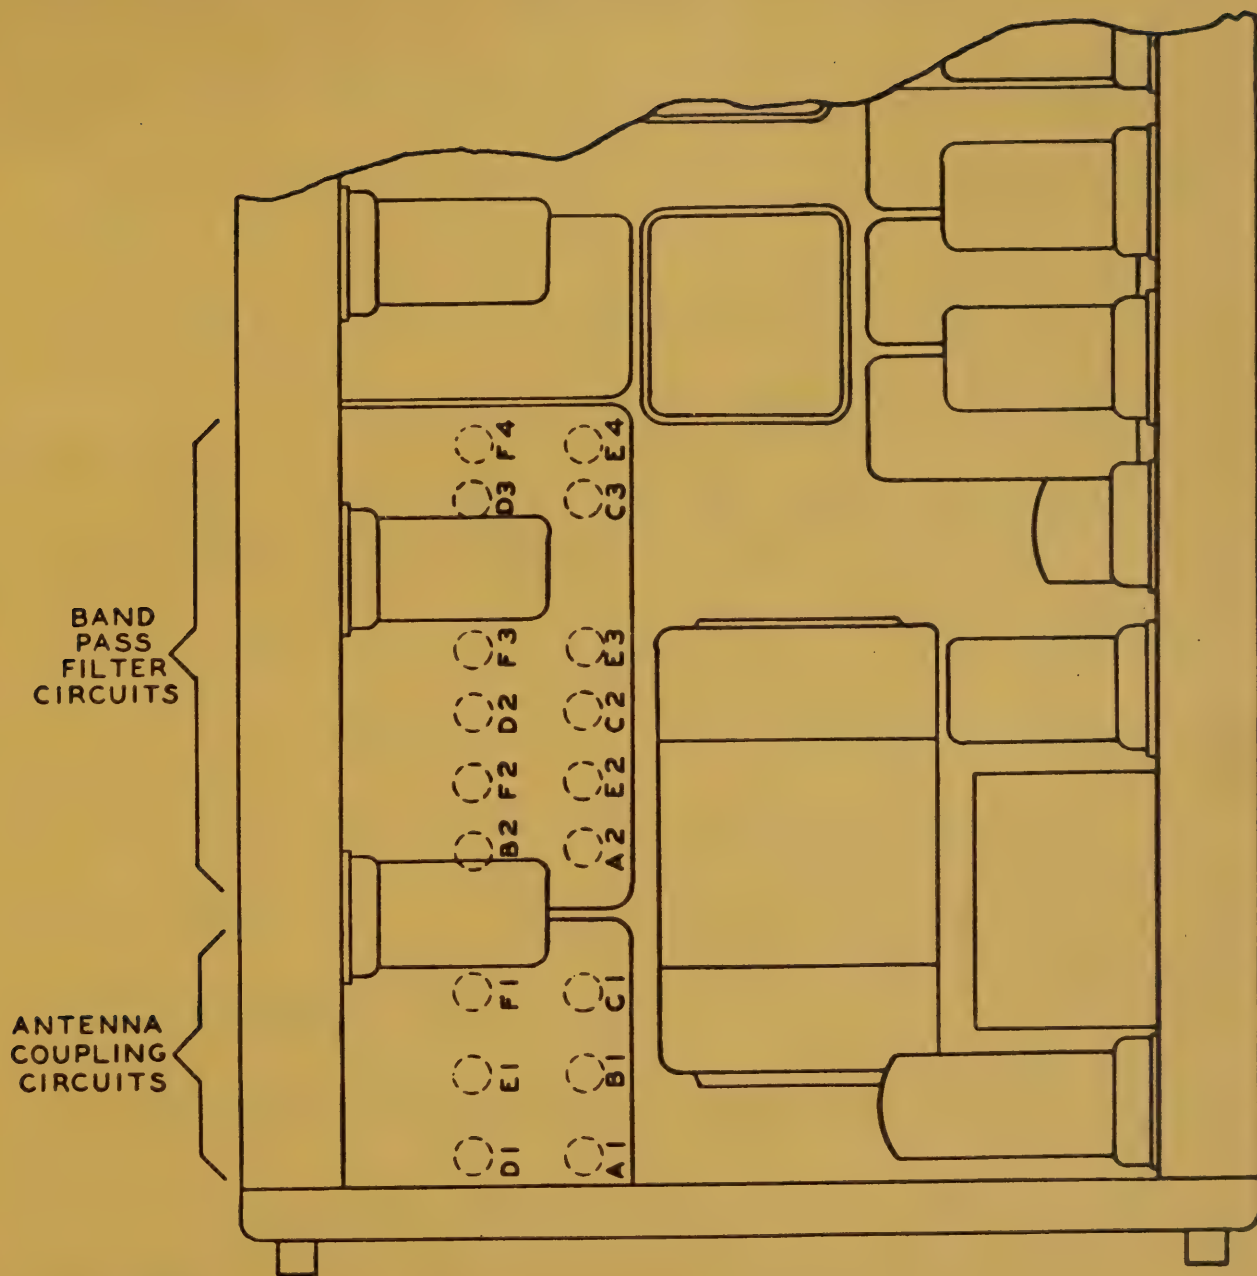

Figure 5-6C Tuned Circuit Locating Diagram
(4) Loosen the screws holding the protective covers of the alignment holes for the antenna coil and band pass coil assemblies, and slide these covers the length of the slots thus exposing the alignment holes. (Refer to Figure 5-6C.)